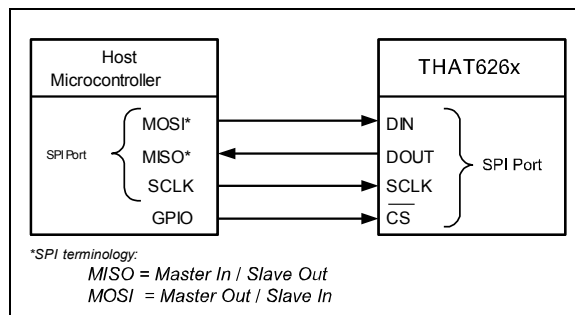

Figure 13. Single 626x connected to a host controller.
The SPI port consists of four signals: Chip Select Bar (CS), Data In (DIN), Data Out (DOUT), and Serial Clock (SCLK). See Table 3. Figure 13 shows a single 626x device connected to the SPI port of a typical host microcontroller. A command sequence is